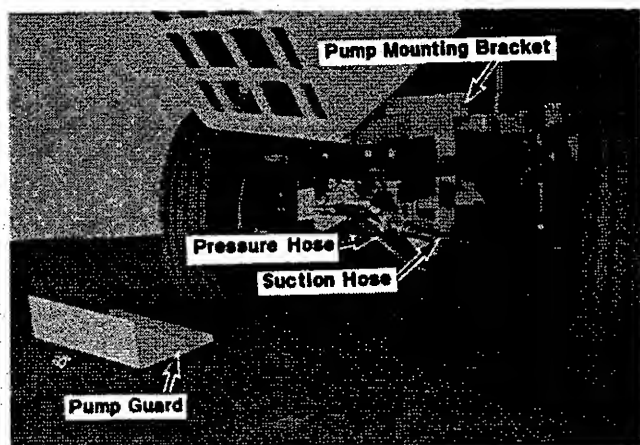

FIGURE 3
At this time raise tractor hood and disconnect the two (2) springs holding the battery cover down. Remove one (1) 5/16" x 1/2" bolt holding ground wires on the right side. Remove one (1) 3/8" x 5/8" bolt holding hydraulic line bracket on left side. Now, remove the pump guard from the pump assembly and also remove the nuts, bolts and lock washers located on the top of each pump mounting bracket. With the hood still in the raised position, place the pump assembly up to the tractor as shown in Figure 3.
the front axle and connect to the pump as shown in Figure 3. At this time make sure all fittings on the pump are tight and positioned as shown in Figure 3. Tighten the hose connections at the pump.